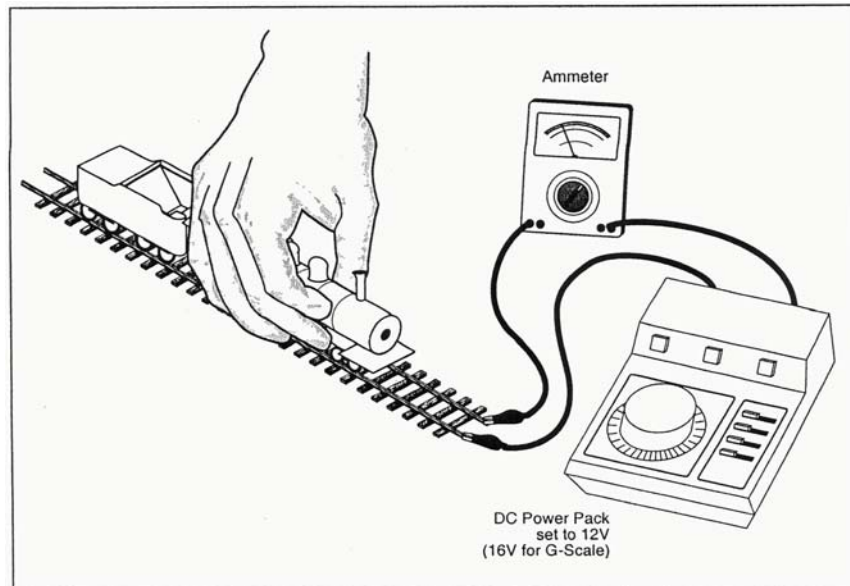

Figure 1 - Stall Current Test Setup
2. Connect a DC Ammeter in series with one of the track feeders as shown in Figure 1. If your controller has built-in meters, they may be used for this purpose.